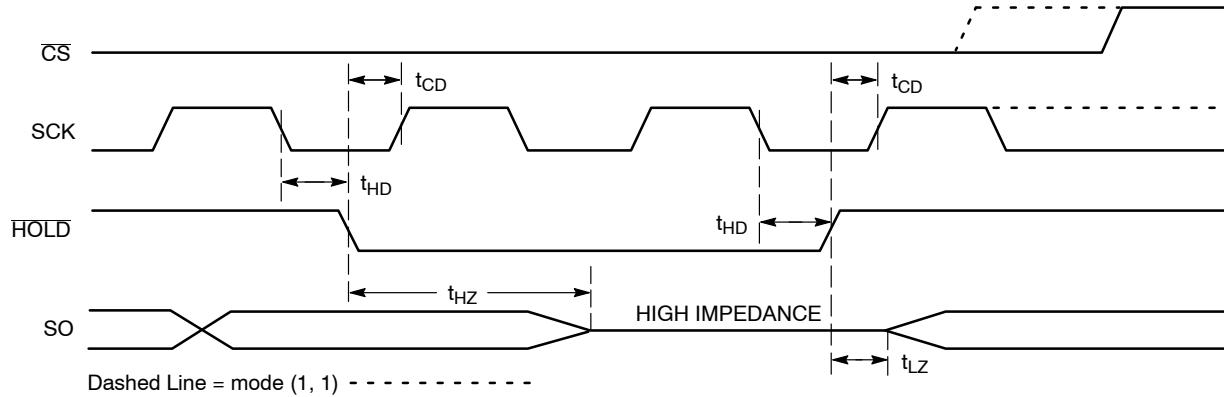

Figure 11. HOLD Timing
The HOLD input can be used to pause communication between host and CAT25320. To pause, HOLD must be taken low while SCK is low (Figure 11). During the hold condition the device must remain selected (CS low). During the pause, the data output pin (SO) is tri-stated (high impedance) and SI transitions are ignored. To resume communication, HOLD must be taken high while SCK is low.